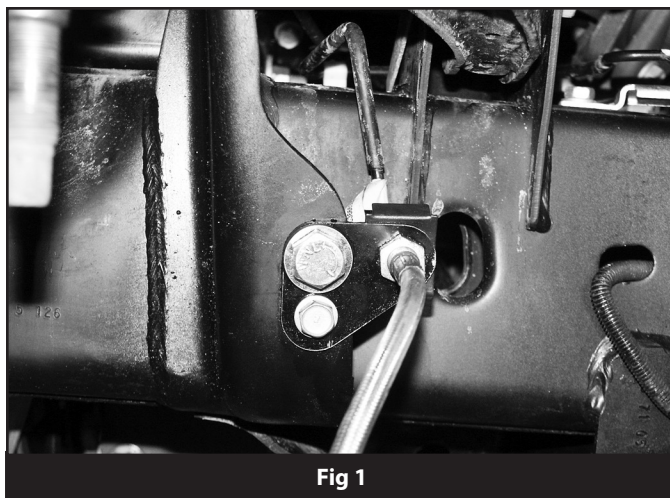

Fig 1
6. Attach the provided brake line relocation bracket (01274) to the frame where the original line mounted. Fasten the bracket with the OE fitting bolt through the original threaded hole and the corresponding small hole in the new bracket (Fig 1). Align the other mounting hole in the bracket with the brake line hole in the frame and fasten with a  $\frac{1}{2}$ " x 1-1/4" bolt, nut and  $\frac{1}{2}$ " SAE washers (BP #631). Torque the OE bolt to 10 ft-lbs and the  $\frac{1}{2}$ " bolt to 50 ft-lbs. **Note:** The third hole in the bracket should be hanging out past the edge of the frame.